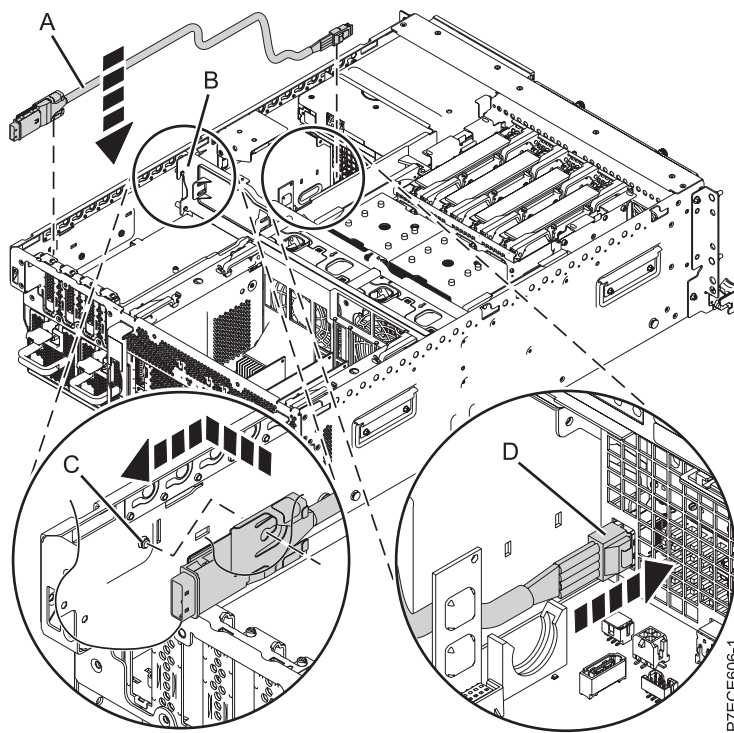

Figure 57. Installing the external SAS port
12. Connect the SAS shroud of the SAS cable (A) to the external SAS connection port on the system backplane, at the rear of the system, until it snaps in place, as shown in Figure 57.
13. Lay the cable beside the side wall, and slide the cable through the centre brace (B), towards the SAS connection port on the disk drive backplane.
14. Push the SAS shroud (D) into the SAS connection port on the disk drive backplane until it snaps in place.